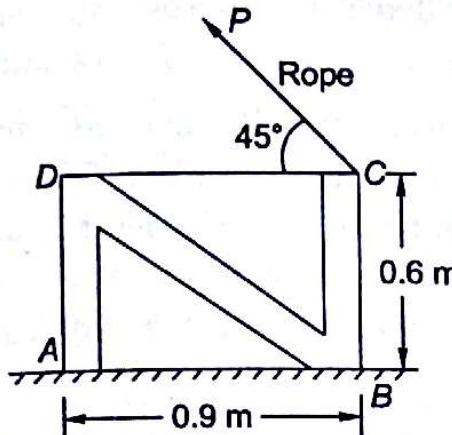

Fig. 6.19
6.1 A packing crate of mass 45 kg is pulled by a rope as shown in Fig. 6.19. If the coefficient of friction between crate and rope is 0.3, determine (a) the magnitude of pull P required to move the crate, (b) whether the crate will slide or tip.